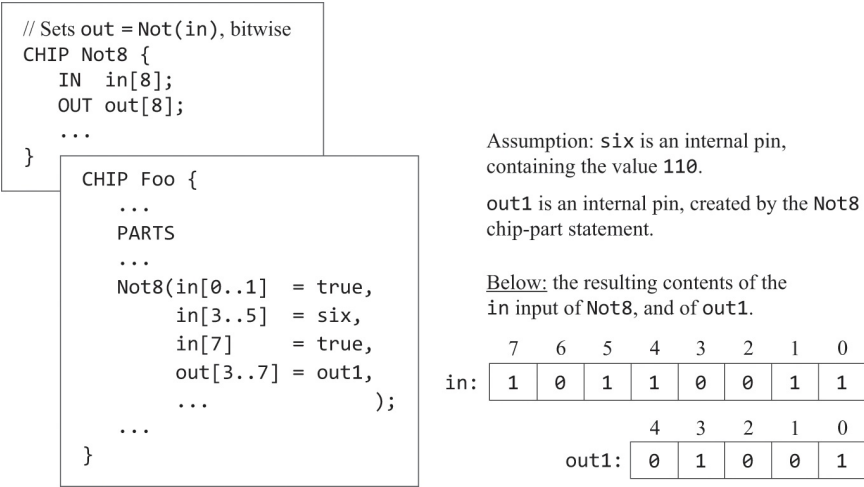

Figure A2.2 Buses in action (example).
This statement sets x to the value 11000111. Note that unaffected bits are set by default to `false` (0). Figure A2.2 gives another example.